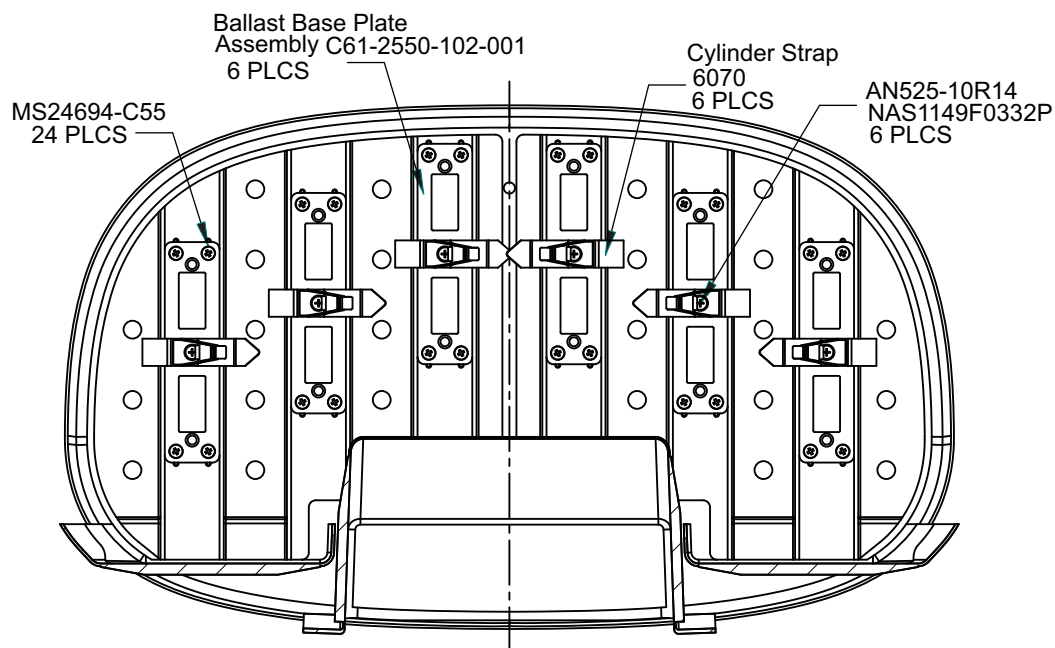

Figure 3 – Ballast Base Plate Assembly and Cylinder Clamp Installation
- 10.18 Install 6 (3 if LH only is installed) Ballast Base Plate Assemblies (C61-2550-102-001) using 24 (12) countersunk screws (P/N MS24694-C55) as shown in Figure 3.